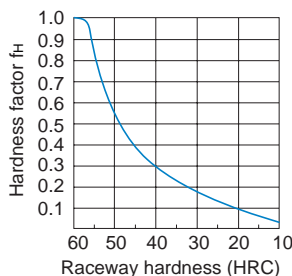

Fig.2 Hardness Factor (fH)
Note) Note that if the hardness of the raceway is lower than 58 HRC, the rated loads will be decreased. (See Fig.2 on A-627.)
- $f_H$  : Hardness factor (see Fig.2 on A-627)